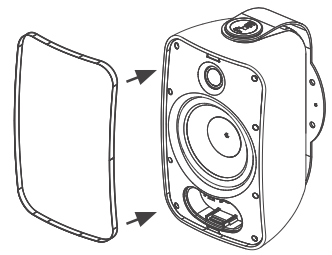

FIGURE 11:
8. Fit the grille onto the speaker (see figure 11).